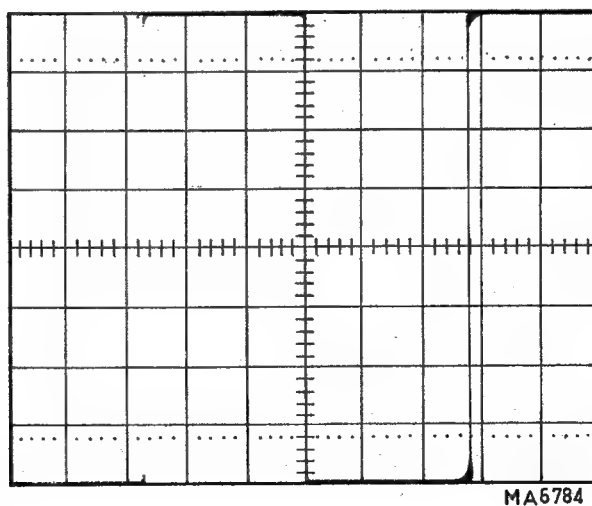

Fig. VIII-11. Square wave pulse with one edge intensified for the purpose of rise time measurement
- Using the Y_A POSITION control in conjunction with the AMPL switch and AMPL potentiometer, obtain a condition in which the pulse shape begins at the bottom horizontal graticule line and ends at the top graticule line (i.e. the vertical deflection rises through exactly eight horizontal divisions). Make any necessary adjustment to the ILLUM and INTENS controls in order to make the display clear, shown in Fig. VIII-11.